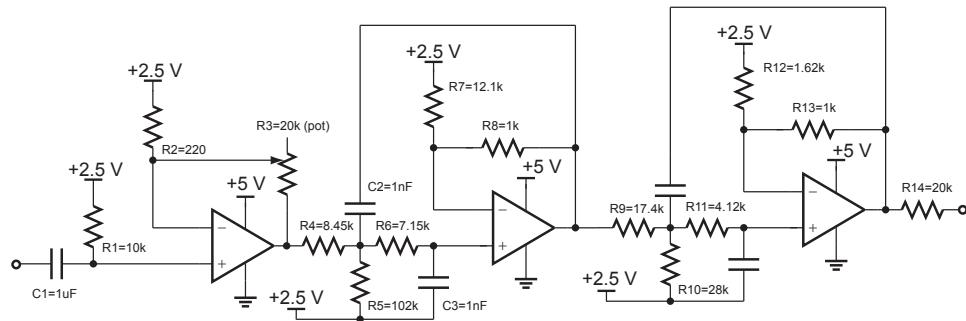

Figure 15: Schematic of the active low-pass filter.
Fig. 15 shows the schematic of the active LPF circuit. The filter has a cut-off frequency of 15 kHz and was designed with the TI WEBENCH filter design tool.
1. Identify the gain stage in Fig. 15. What is the expression of its gain? Notice the +2.5 V bias does not affect this result, rather it simply shifts
1. Identify the active LPF portion of the circuit in Fig. 15. The overall filter consists of 2 low pass filters. What is the order of the overall filter and how is it determined from the schematic?
3. To measure just the filter response, disconnect R4 and R14 from the circuit (Fig. 15). Input a 3 Vpp signal in place of R4 and measure the output in place of R14. Tabulate and plot the frequency response from 100 Hz to 50 kHz. What is the cutoff frequency of the filter?